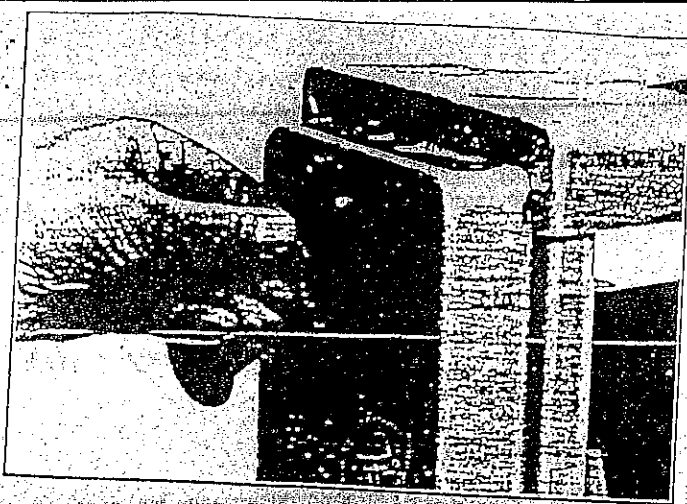

Figure 1
2. Attach the elevation control handle with the socket head bolt and spring washer (Figure 1). Tighten with the 5 mm hex wrench key.